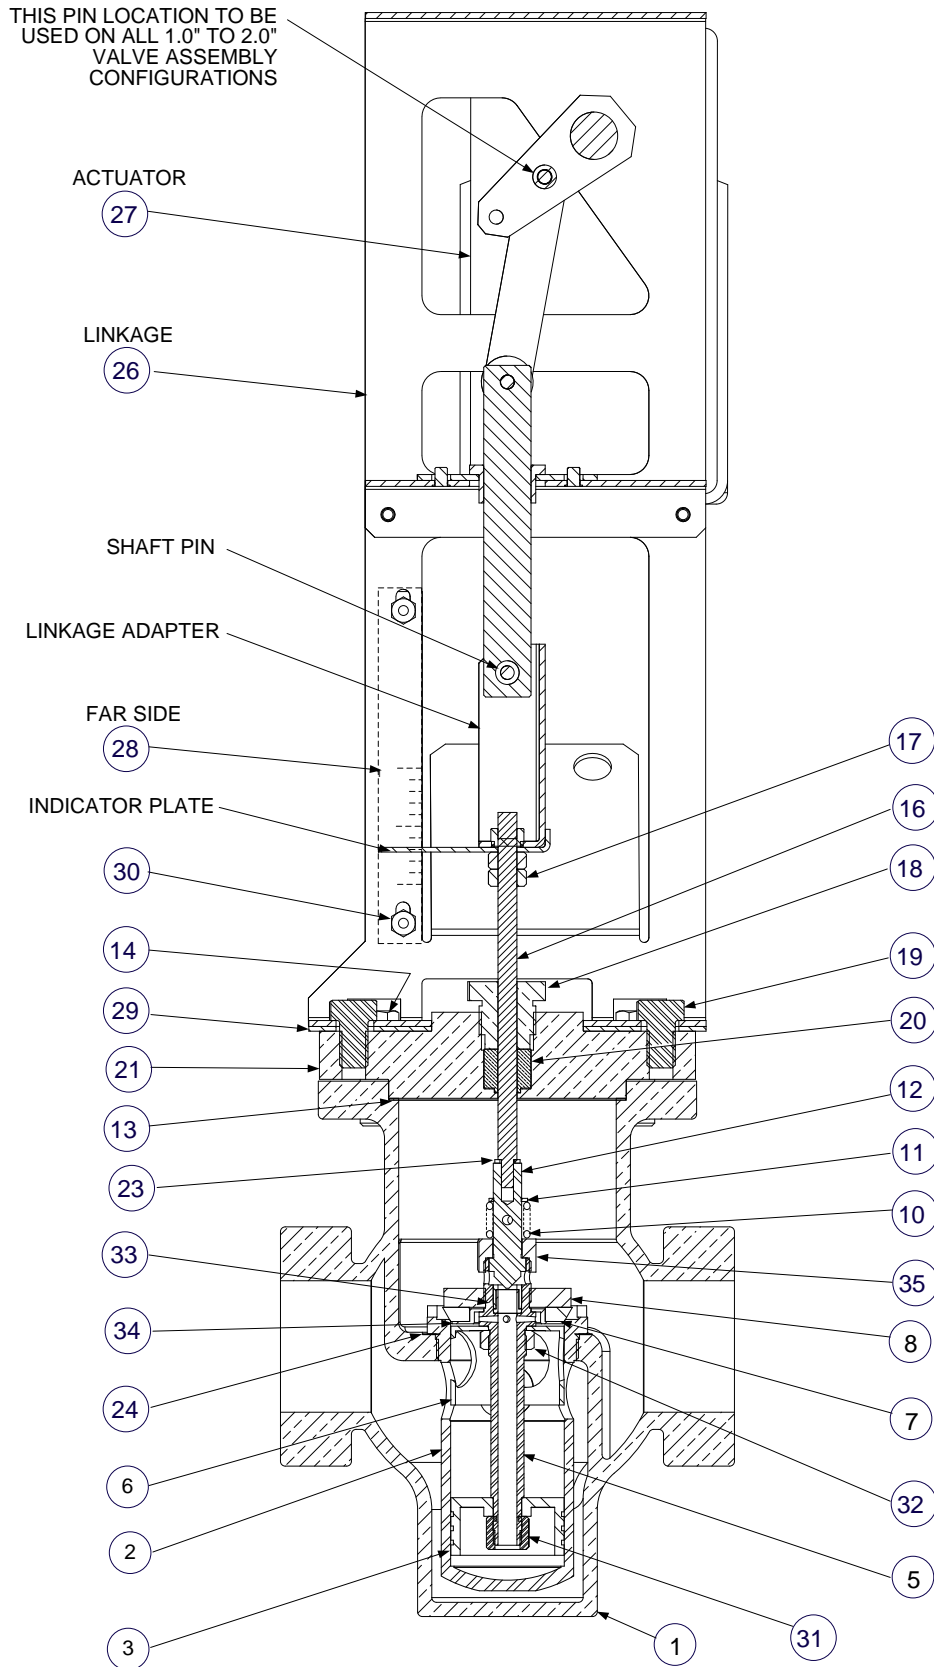

Figure 8-1. Valve Assemblies, Type CXT-E (P/N 24036) (Sizes 1.00" To 2.00")
Refer to Figure 8-1, or Figure 8-2 and proceed as follows:
- CM17. Completely remove the Actuator (27) and Linkage Assembly (26) from the Valve Body as described in steps CM1 through CM5.
- CM18. Refer to Figure 8-1 or Figure 8-2. It is strongly recommended that disassembly of the Valve be limited to only the steps necessary to restore the Valve to proper operation. However, the following steps cover complete disassembly, if necessary. When performing Valve disassembly, USE EXTREME CARE not to mar or scratch any surfaces. The following steps assume that the Actuator and Linkage Assemblies have already been removed from the Valve Body.
- CM20. Grasp the Lower Shaft (16) and carefully lift out the ENTIRE Shaft/Seat/Piston Assembly.
- CM21. For Control Valves, 1-inch through 2-inch (Figure 8-1), disassemble the Shaft/Seat/Piston assembly in the following order:
- Lock Washer (23)
- Retaining Ring (11)
- Pilot Spring (10)
- Valve Stem Retaining Nut (35)
- Lower Shaft (16) and Valve Stem (12)
- Retaining Disc (8)
- Disc Seat (7)
- Seat Retainer (34)
- Valve Plug Shaft (5)
- CM24. CLEAN ALL PARTS THOROUGHLY. ALL DIRT AND/OR SCALE MUST BE REMOVED from the outer surfaces of the Valve Plug Shaft (5) (Figure 8-1) or the Top Piston (6) and Bottom Piston (3) (Figure 8-2) and from the surface of the Valve Stem (12).
- CM25. Inspect the Valve Stem (12). If it is damaged or it does not seat properly on the Valve Seat (7), or does not move freely in the Valve Seat Retaining Disc (8), the Valve Stem (12), Pilot Spring Retainer (11) and Pilot Spring (10) must be replaced.
- CM26. Inspect the outer surfaces of the Valve Plug (5) or the Top Piston (6) and Bottom Piston (3). If they are scored or damaged so that they will not move freely up and down in the Seat Cage (2), the Valve Plug or Pistons must be replaced. Also see Step CM32.
Refer to Figure 8-1 or Figure 8-2 when performing the following procedures.
- CM30. If the Seat Cage has been removed, place a NEW Seat Cage Gasket (24) on the seating surface of the Valve Body. Next, replace the Seat Cage (2) into the Valve Body (1), using the tool described in Step CM29. Make the Seat Cage tight.
- CM31. If disassembled or being replaced, reassemble the Top Piston (6) and Bottom Piston (3) onto the Valve Plug Shaft (5), using the Top Piston Retaining Nut (46) (1-inch through 2-inch Valves), and Bottom Piston Retaining Nut (50) or Bottom Piston Retaining Ring (4).
- CM32. For Control Valves, 1-inch through 2-inch, (Figure 8-1), reassemble the Valve Plug/Seat/Shaft assembly in the following order:
- Valve Plug (5)
- Valve Seat (7)
- Valve Stem (12) and Lower Shaft (16)
- Pilot Spring Retaining Clip (3)
- CM34. Holding the Lower Shaft (16), carefully replace the entire Shaft/Seat/Piston assembly into the Valve Body (1) and Seat Cage (2).
- CM35. Thoroughly clean the gasket surfaces of the Valve Body (1) and Valve Top (21) of all dirt and scale. If necessary, use a wire brush, emery or both.
- CM36. See Figure 8-1 or 8-2. Reassemble these parts in the following order:
- NEW Valve Top Gasket (13)
- Valve Top (21)